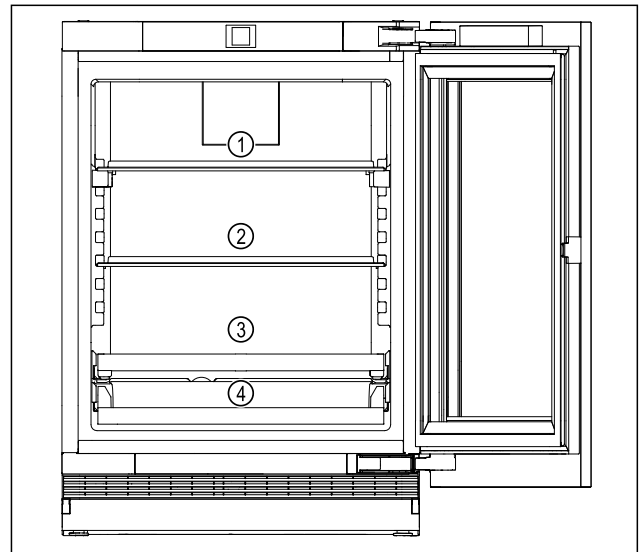

Fig. 4 Example illustration
- ▶ Top area Fig. 4 (1): Store cans, smaller bottles.
- ▶ Middle area Fig. 4 (2): Store cans, smaller bottles.
- ▶ Bottom area Fig. 4 (3): Store cans, smaller bottles.
- ▶ Beverage shelf (4): Store cans, smaller bottles.